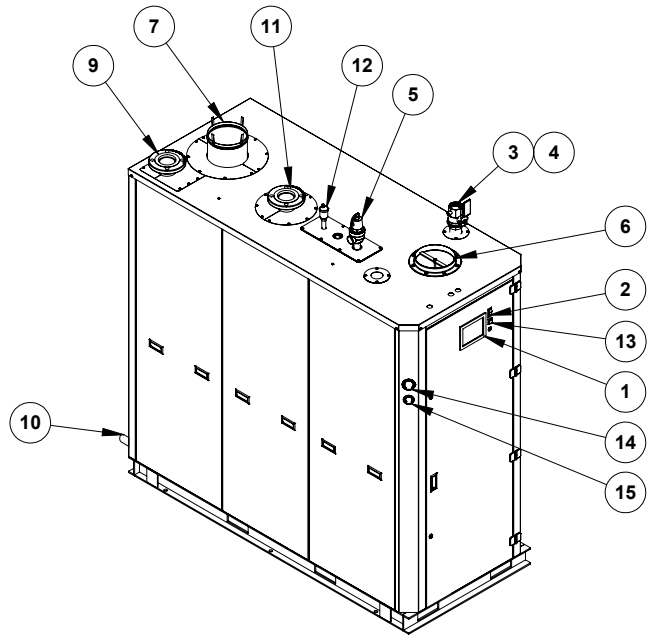
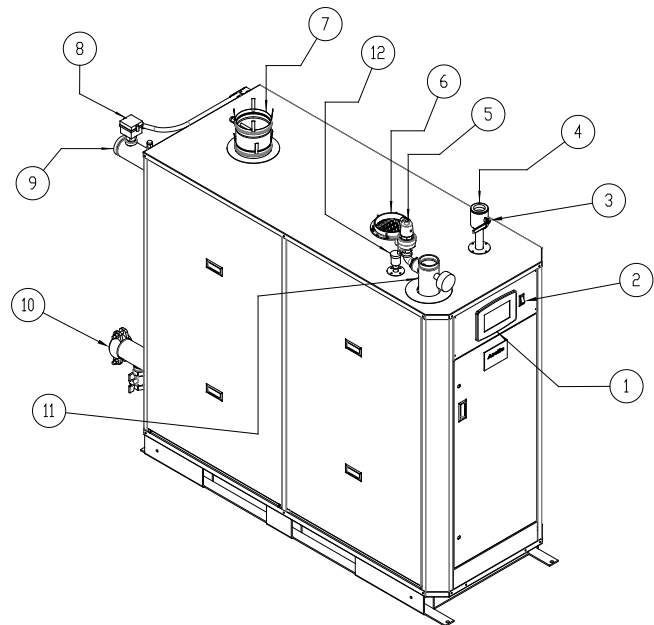
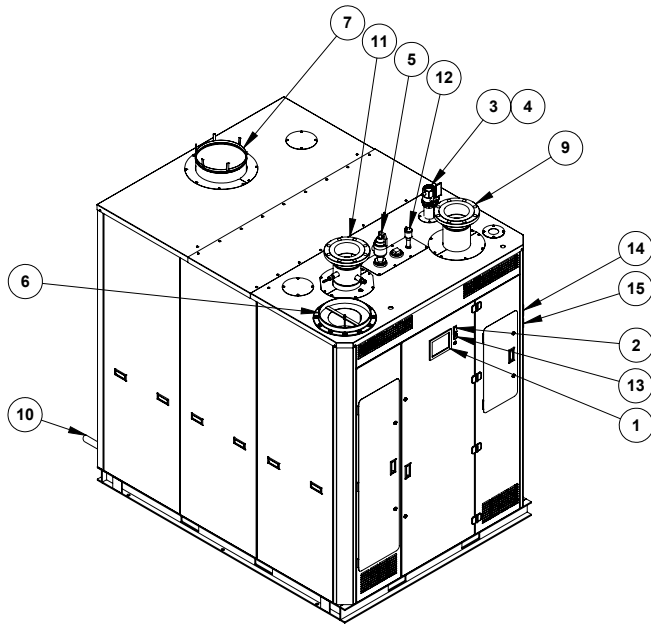

Figure 2: 1500-3000 External Boiler Connections
Figure 1: 1000 External Boiler Connections
Figure 3: 3500-6000 External Boiler Connections
(See Figure 1, Figure 2 and Figure 3)
- a. The system supply and return flow connections are shown on Figure 1. A gate valve should be installed on the boiler outlet and inlet lines. This allows the boiler to be isolated from the heating system for draining and servicing.